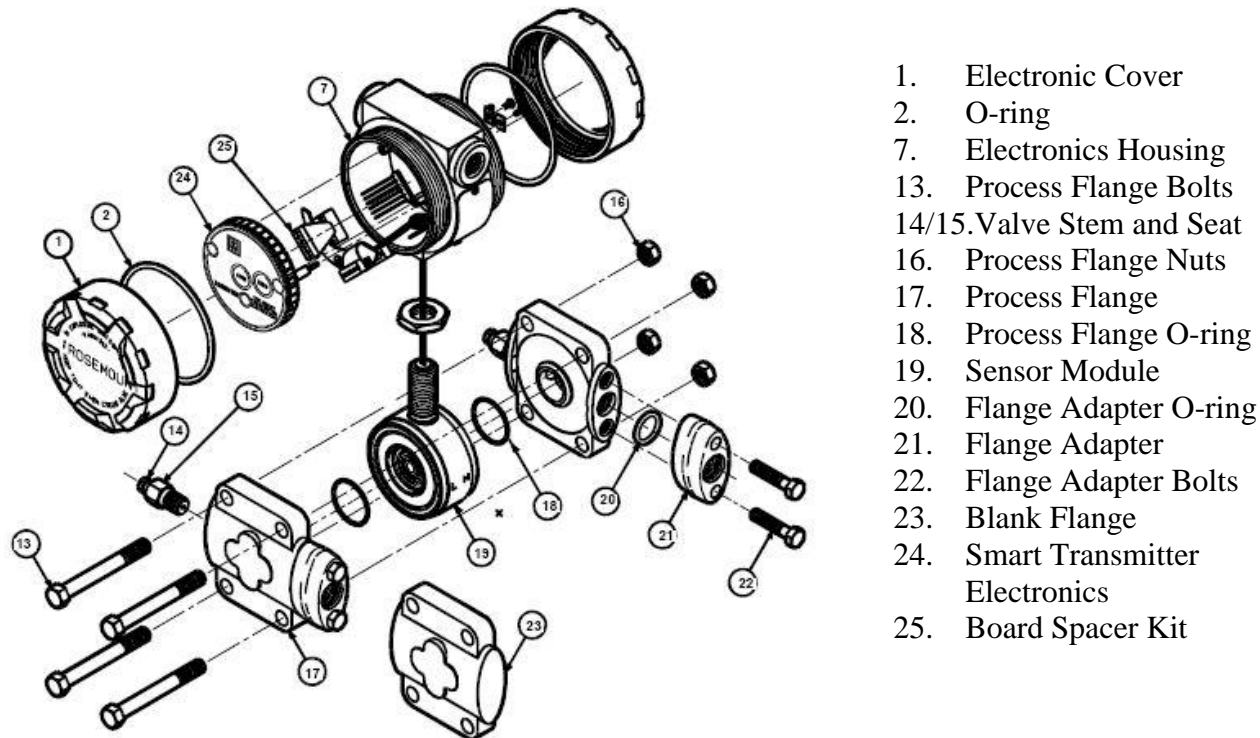

Figure 9 –Pressure Transmitter Components
- Figure 9 – Pressure Transmitter Components
The major parts of the Pressure Transmitters, shown in **Figure 9**, are as follows:
The Model 1151 pressure transmitter is supplied with an aluminum or steel dual compartment housing designed to resist moisture and corrosion. The housing may be panel-mounted, wall-mounted, or attached to a 2-inch pipe through an optional mounting bracket. The sealed electronics module is mounted in a compartment that is isolated from the terminal side conduit entries. O-ring seals, as shown in **Figure 9**, protect the interior when the covers are properly installed. In humid environments, however, it is possible for moisture to accumulate in conduit lines and drain into the housing.